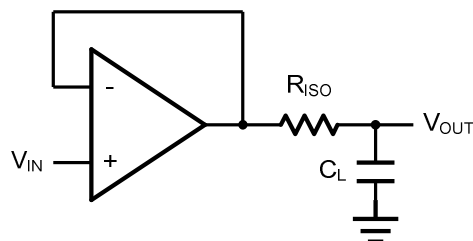
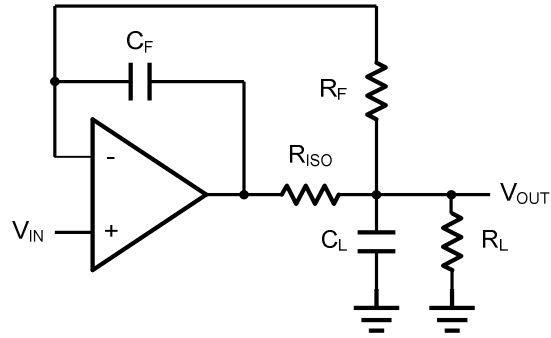

Figure 2. Indirectly Driving a Capacitive Load Using Isolation Resistor
Figure 3. Indirectly Driving a Capacitive Load with DC Accuracy
The HG855x family is optimized for bandwidth and speed, not for driving capacitive loads. Output capacitance will create a pole in the amplifier's feedback path, leading to excessive peaking and potential oscillation. If dealing with load capacitance is a requirement of the application, the two strategies to consider are (1) using a small resistor in series with the amplifier's output and the load capacitance and (2) reducing the bandwidth of the amplifier's feedback loop by increasing the overall noise gain. Figure 2. shows a unity gain follower using the series resistor strategy. The resistor isolates the output from the capacitance and, more importantly, creates a zero in the feedback path that compensates for the pole created by the output capacitance.
The circuit in Figure 3 is an improvement to the one in Figure 2.  $R_{\text{F}}$  provides the DC accuracy by feed-forward the  $V_{\text{IN}}$  to  $R_{\text{L}}$ .  $C_{\text{F}}$